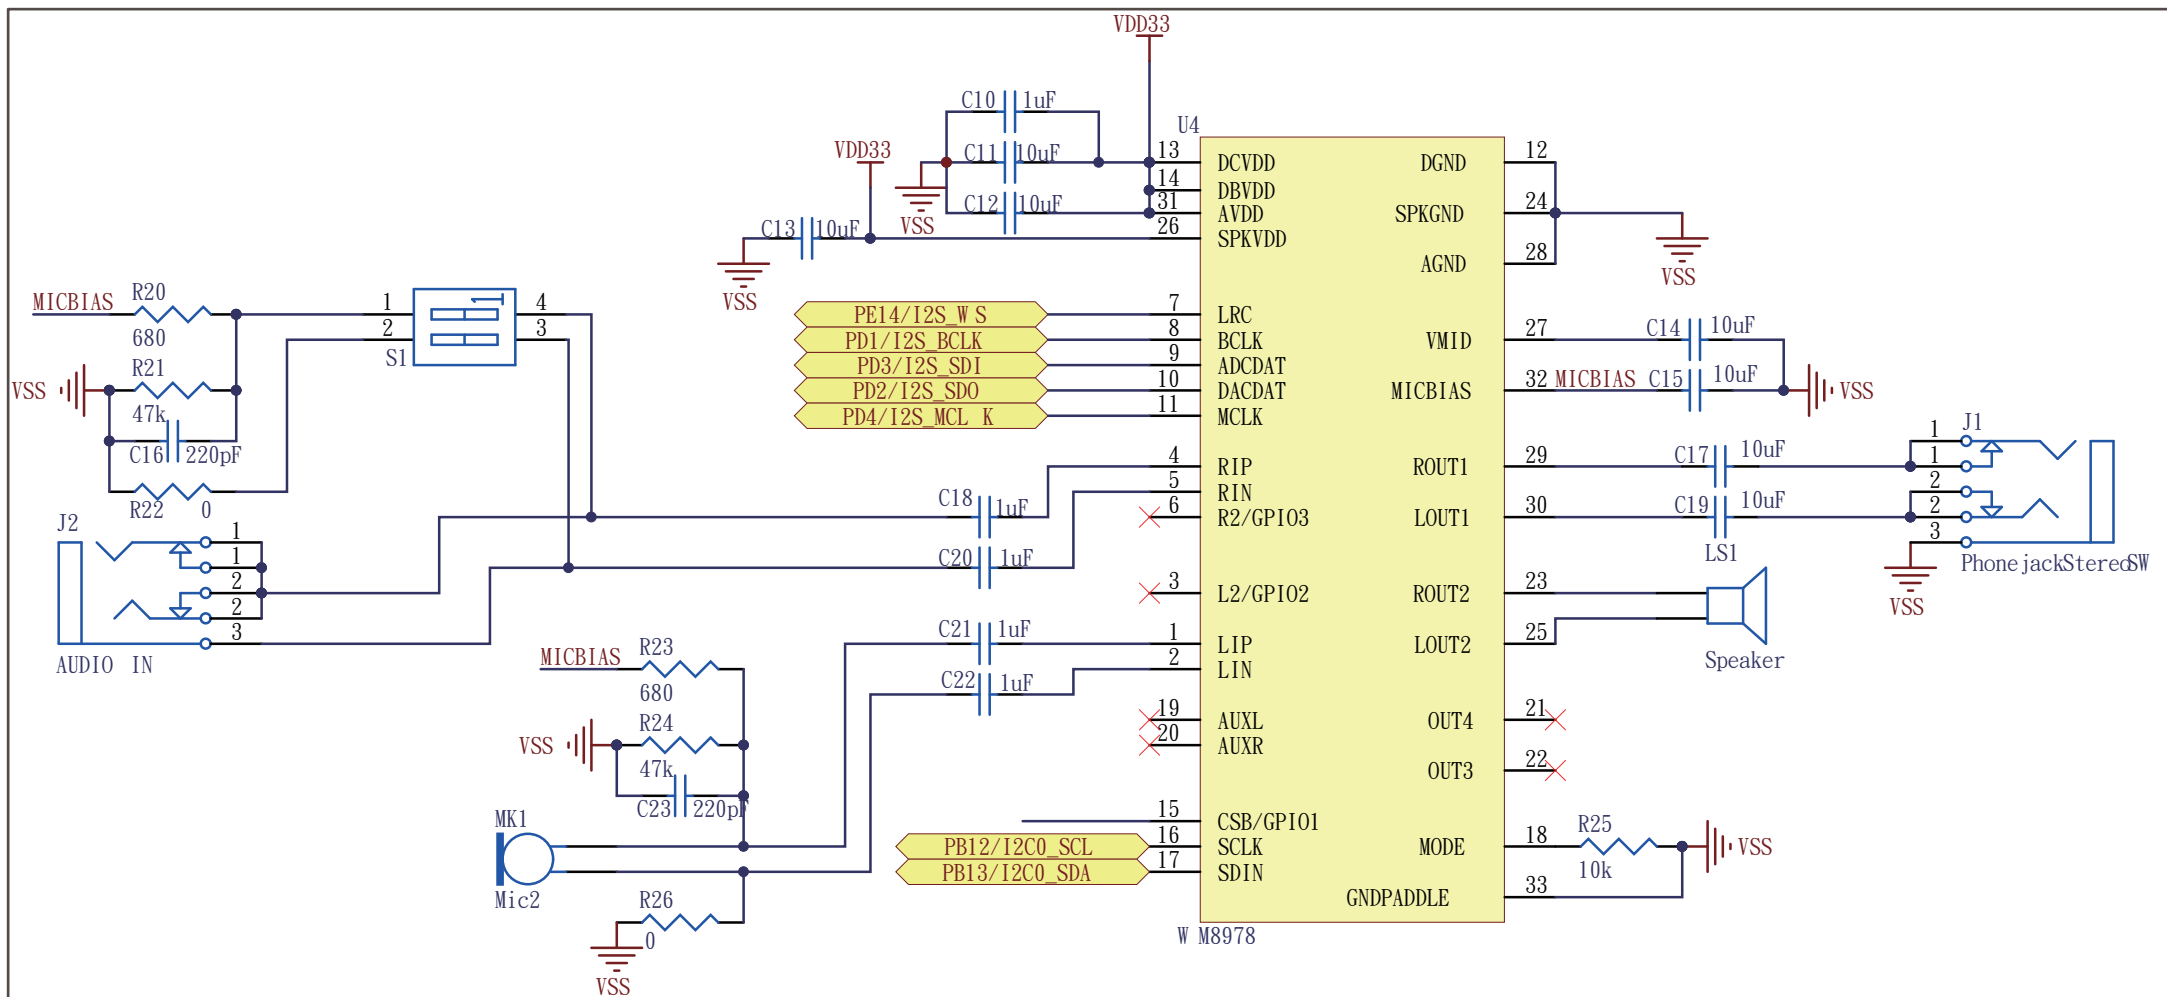

Figure 21. I2S Audio Codec
- Figure 21 includes the I2S Audio Codec.